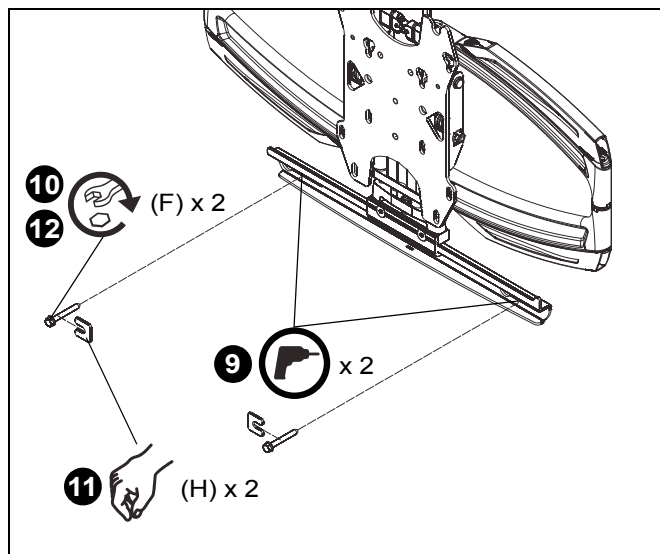

Figure 4
8. Center main assembly (M) over two studs.
9. Drill two 13/64" holes in center of wood studs at lower mounting holes. (See Figure 4)
10. Loosely install two 5/16 x 2 1/2" flange head lag screws (F). (See Figure 4)
11. Place two installation spacers (H) over two flange head lag screws (F). (See Figure 4)
12. Tighten two screws to secure main assembly (M) to wall. (See Figure 4)